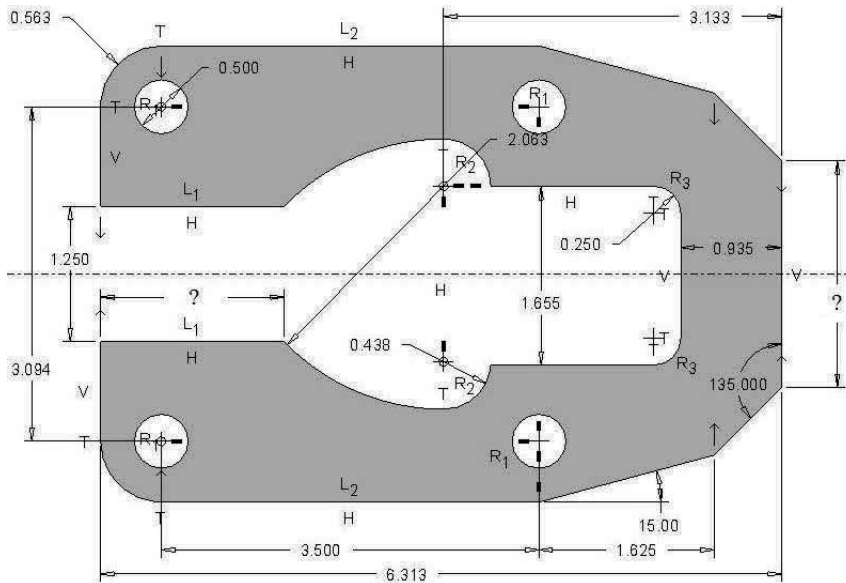

Figure 3-71 Problem 2
- 3.2** Draw "latch\_plate" (Figure 3-71). **Design Intent**—The plate must be symmetrical about a horizontal centerline (draw 1st). The four holes must be at the corners of a 3.000 inch by 3.500 inch imaginary box. Note that the beginning of the 15° line is directly below or above the center of the circles of radius R1. What is the length of the far right vertical line and the horizontal line L1? (>File>Options>Sketcher, change to 3 decimal places. Pick OK.)